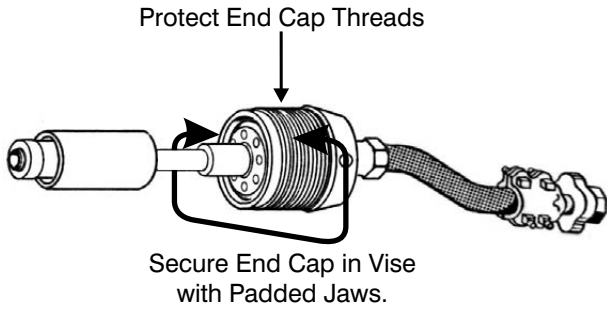
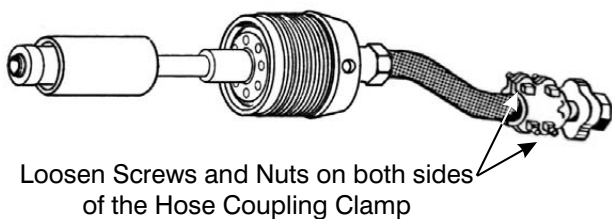

Figure 8-8. Secure End Cap for Disassembly.
Figure 8-9. Hose Coupling Clamp
- Place the End Cap (10) in a vise or saddle clamp as shown in Figure 8-8. Secure the End Cap (10) tight enough to hold the Tail Assembly in place during disassembly.
- If both the Whip Hose (14) and the Hose Coupling (17) are to be replaced, do not bother to disassemble these two components. Proceed to step 8.6.3.
- If either the Whip Hose (14) or the Hose Coupling (16) is to be replaced, separate these two components by the following procedure.
- Refer to Figure 8-9. With the End Cap secured to prevent rolling, loosen the square head screws and nuts of the Hose Coupling Clamp.